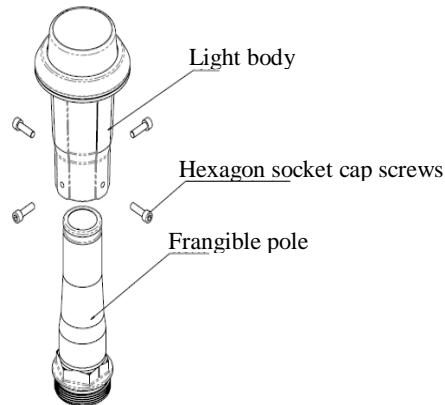

Figure 5-12
2. Unscrew the hexagon socket cap screw fixing the frangible pole with a 5mm socket head wrench (Figure 5-12).